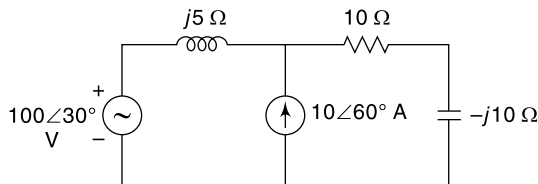

Fig. 6.4 Circuit of Ex. 6.4
6.4 Find the current in the resistor of the 10Ω resistance in Fig. 6.4 using the principle of superposition theorem.